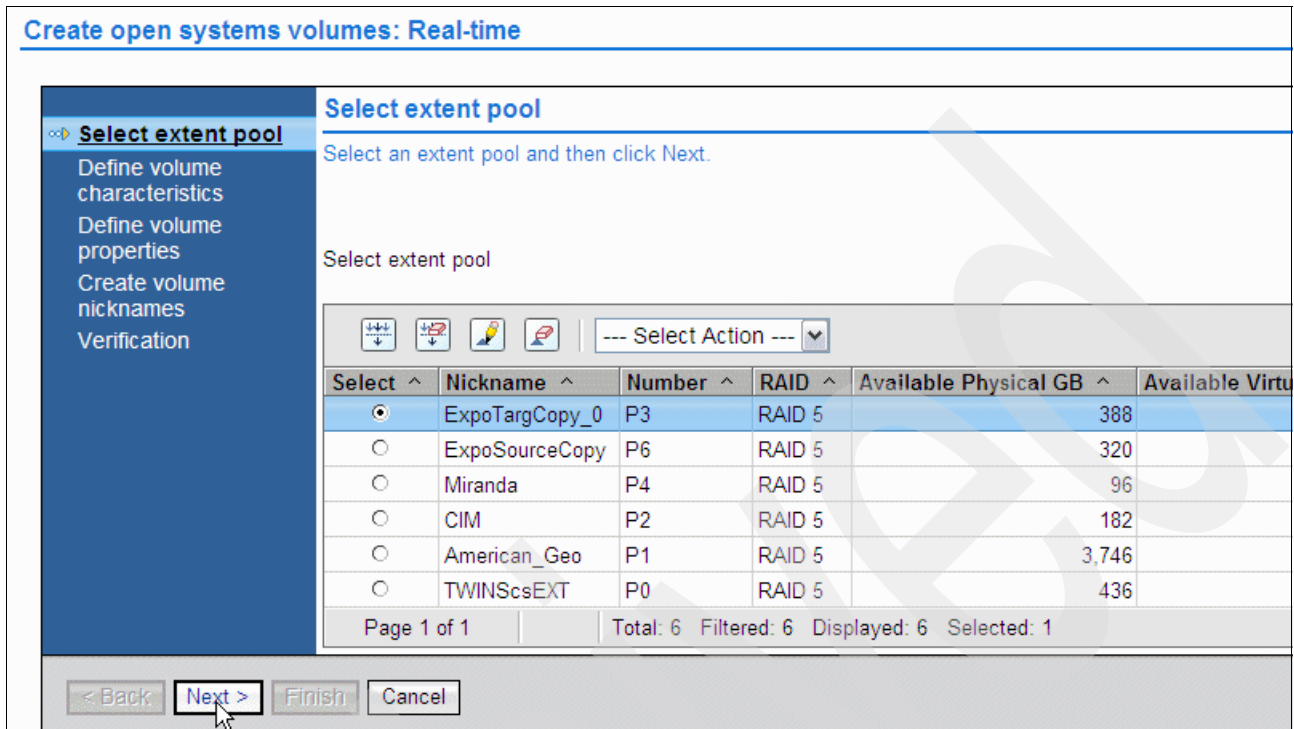

Figure 10-11 Selecting an extent pool
- In the Select extent pool panel, select the newly created extent pool as shown in Figure 10-11.